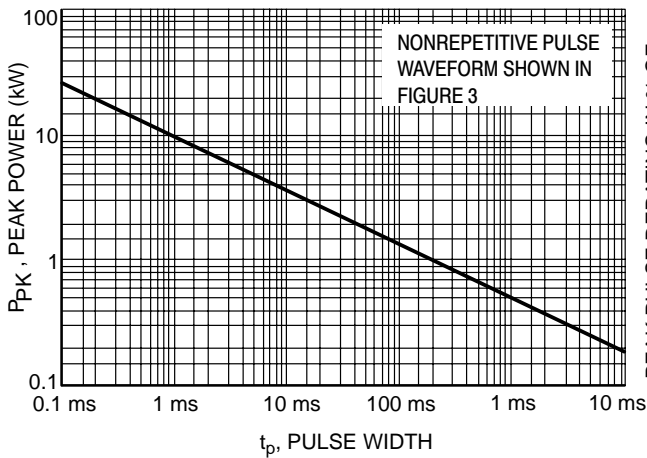
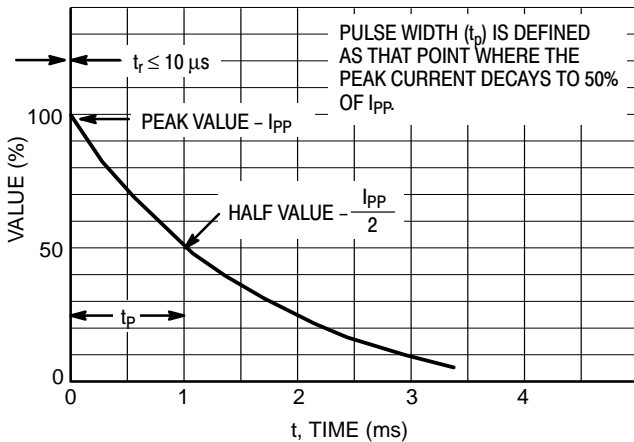

Figure 1. Pulse Rating Curve
Figure 3. Pulse Waveform
- Surge current waveform per Figure 3 and derate per Figures 1 and 2.
4. Surge current waveform per Figure 3 and derate per Figures 1 and 2.